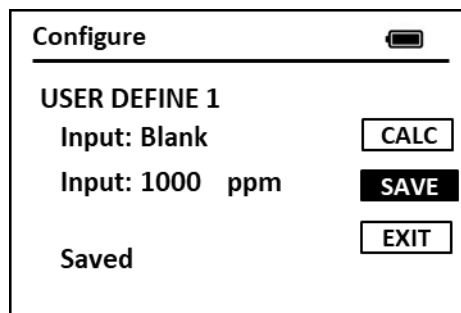

Figure 12
5. To continue the calibration entry points using the second calibration standard solution, place the second calibration standard into the HM-900 sample compartment and repeat the above process by entering in the known value of the second standard. Then press the OK key when highlighted on the CALC icon to accept the second calibration standard (Figure 12). If a second range calibration is not required, press the OK key on the icon SAVE to save the first range calibration, then press OK key on the icon EXIT to exit. ***NOTE*** - The concentration of the second calibration solution must be higher than the first calibration solution.